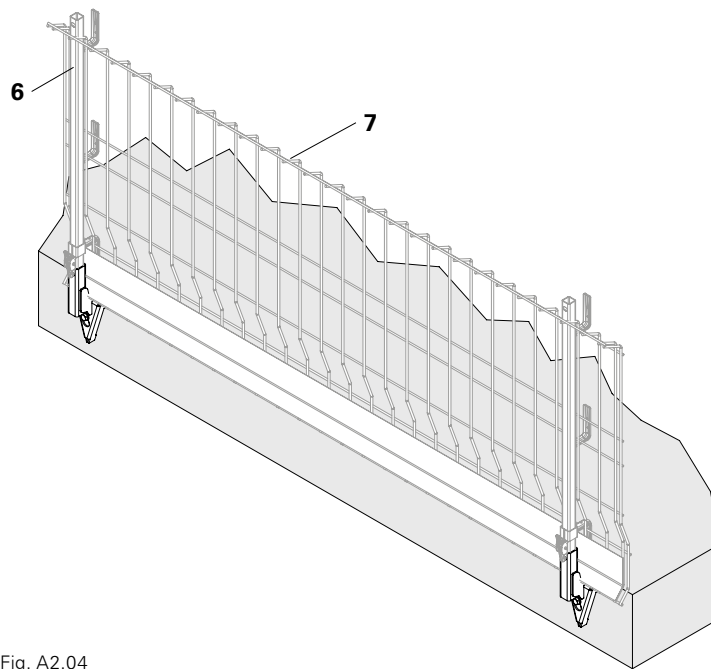

Fig. A2.04
4. Insert post (6) into rectangular tube (2a), see Section "A3 Post" on page 33.
5. Fit the side mesh barrier (7), see Section "A4 Lateral protection" on page 35. (Fig. A2.04)